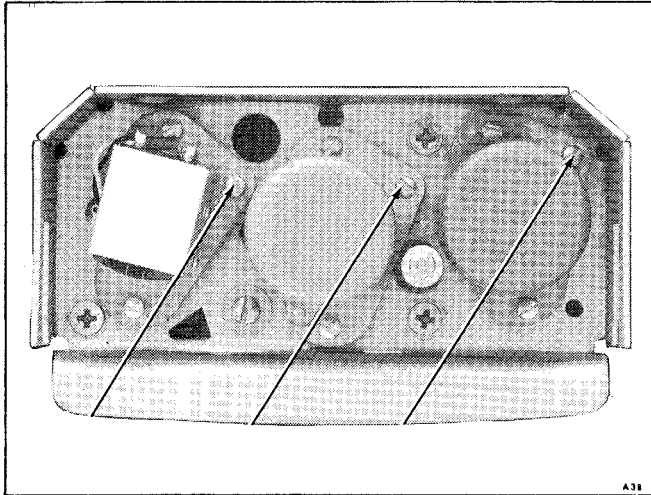

Figure 5-9. Head Azimuth Adjustments
azimuth-adjust screw on the reproduce head (see Figure 5-9) for maximum VU meter indications. On two-channel equipment, adjust screw to the optimum setting for both heads in the stack.
5.54 RECORD-HEAD AZIMUTH (See Figure 5-9)